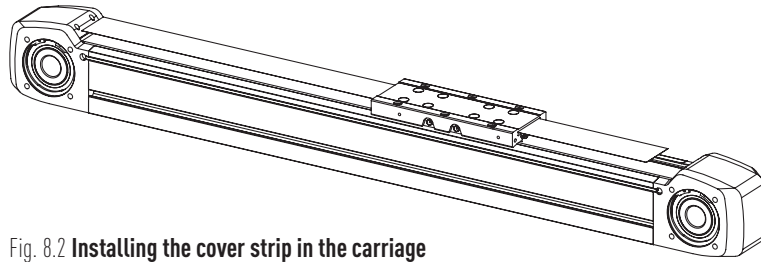

Fig. 8.2 **Installing the cover strip in the carriage**
- ▶ Insert the cover strip through the upper opening in the carriage profile as shown in Fig. 8.2.